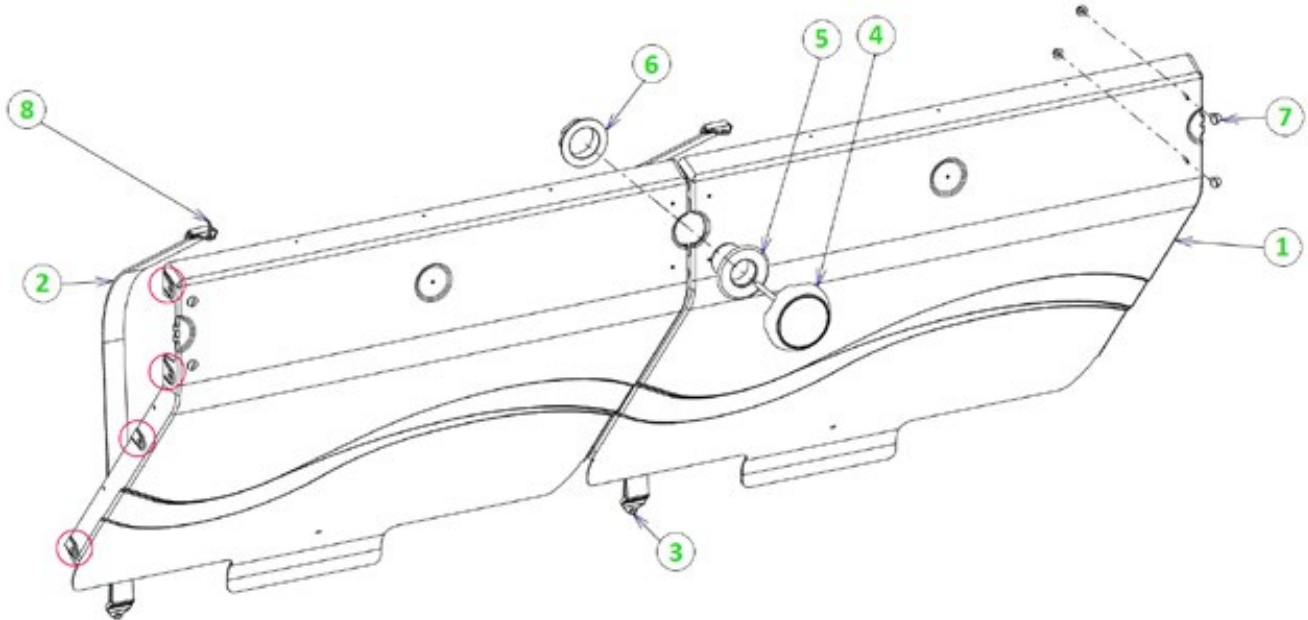

Figure 42 – Installing the pit wall and underwater light
The pit wall and underwater light assembly steps are illustrated in Figure 42. The screws required for assembly are enclosed in bag Y.
Lastly, fasten the pit wall to the brackets (part 12 in Figure 42) using four 8 × 16 stove screws (7), four washers and four 8 mm diameter A4 SS nuts.